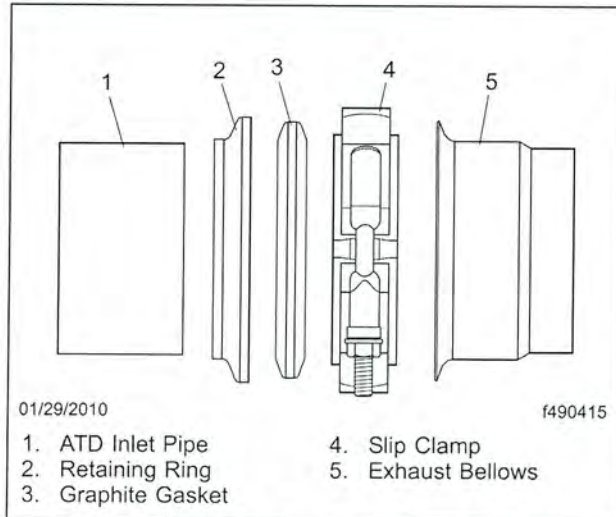

Fig. 4, Aft Facing Slip Clamp Installation
8. Slide the slip clamp, with the retaining ring and graphite gasket ring, on the ATD inlet pipe. See **Fig. 4** for proper installation.